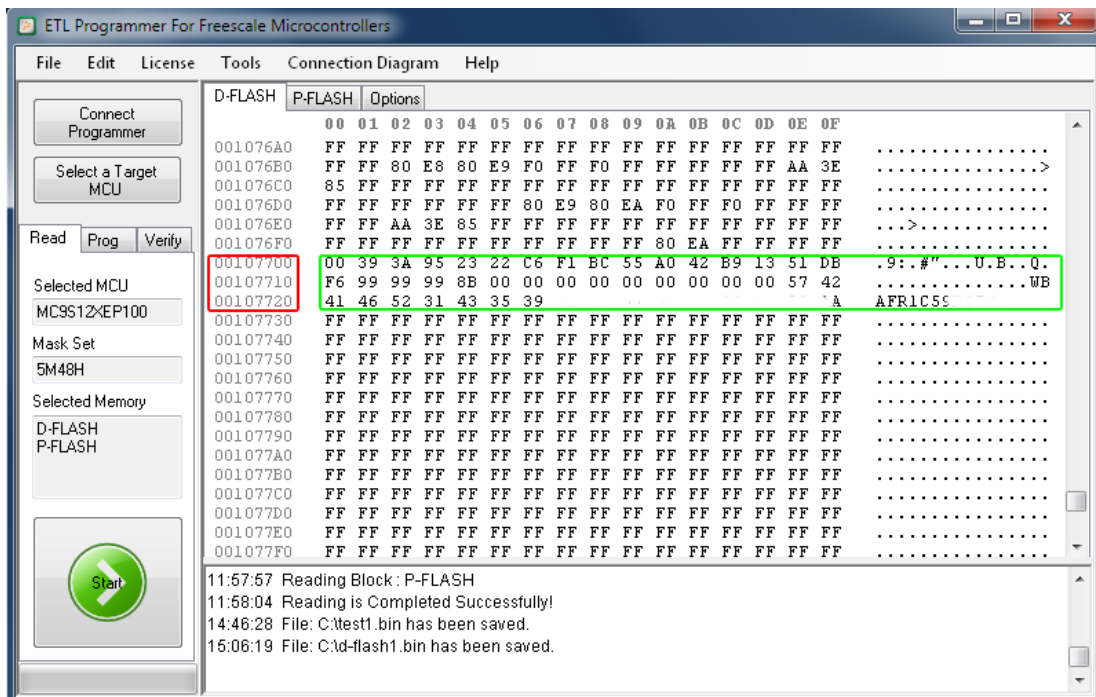

Figure 30 Load Data-FLASH from file
- The next step is to program the Data-FLASH back to the MCU. Select 'Open File' from the 'File' menu. Choose file name to be loaded by 'Browse' button and press 'OK' button (Figure 30).